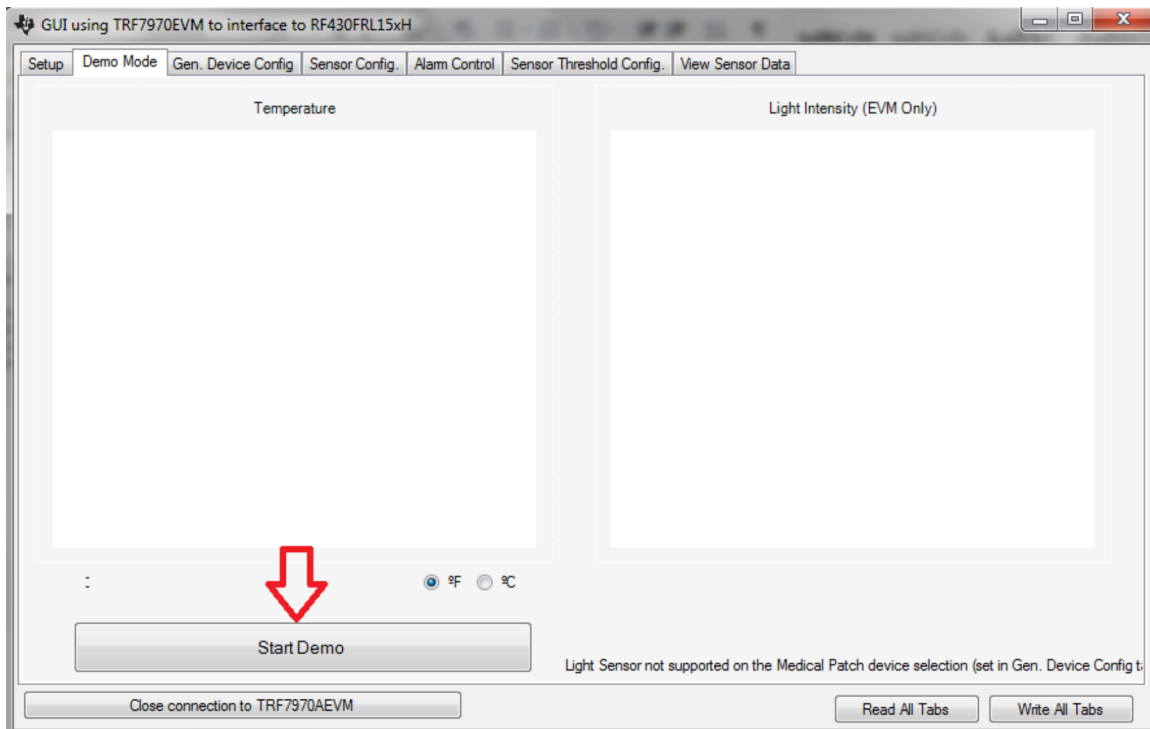

Figure 5. Start Demo
- Align the Patch Board in parallel with the TRF7970AEVM antenna and then click “Start Demo” (as shown in Figure 5). First, this writes the configuration for the ADC and frequency of measurements to the RF430FRL152H. Then, it begins reading the subsequent sensor measurements as they are updated.